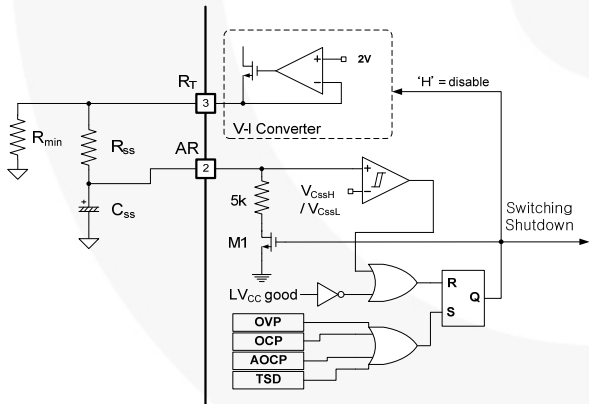
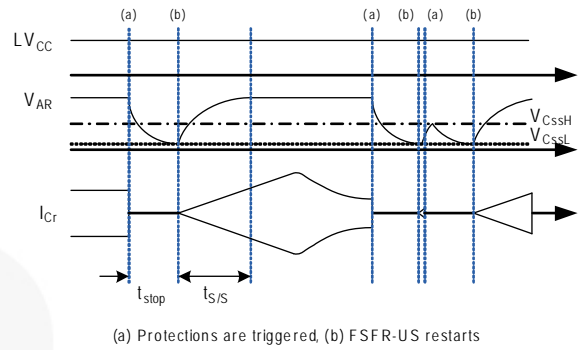

Figure 20. Internal Block of AR Pin
Figure 21. Self Auto-Restart Operation
4. Self Auto-Restart: The FSFR-XS series can restart automatically even though any built-in protections are triggered with external supply voltage. As can be seen in Figure 20 and Figure 21, once any protections are triggered, the M1 switch turns on and the V-I converter is disabled. C_{SS} starts to discharge until $V_{C_{SS}}$ across C_{SS} drops to $V_{C_{SSL}}$. Then, all protections are reset, M1 turns off, and the V-I converter resumes at the same time. The FSFR-XS starts switching again with soft-start. If the protections occur while $V_{C_{SS}}$ is under $V_{C_{SSL}}$ and $V_{C_{SSH}}$ level, the switching is terminated immediately, $V_{C_{SS}}$ continues to increase until reaching $V_{C_{SSH}}$, then C_{SS} is discharged by M1.